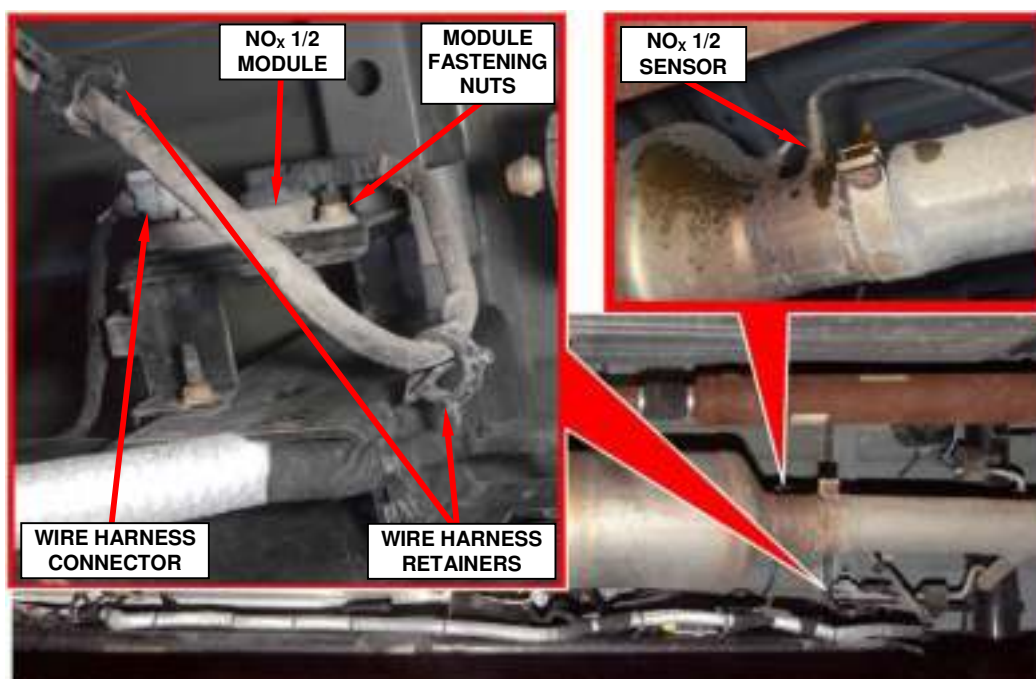

Figure 8 – NO_x 1/2 Sensor and Module
2. Disconnect the vehicle wire harness connector from the Oxides of Nitrogen (NO_x) 1/2 sensor module (Figure 8).
3. Remove and save the two nuts fastening the NO_x 1/2 module to the module bracket (Figure 8).
4. Release the NO_x 1/2 sensor wire harness from the harness retainers (Figure 8).
5. Remove and save the NO_x 1/2 sensor with module attached from the SCR catalyst (Figure 8).
37. Install the NO_x 1/2 sensor with module attached to the SCR catalyst. Tighten the NO_x 1/2 sensor to 37 ft. lbs. (50 N·m) (Figure 8).
38. Install the NO_x 1/2 sensor wire harness to the harness retainers (Figure 8).
39. Install the NO_x 1/2 module to the module bracket with the two nuts. Tighten the nuts to 80 in. lbs. (9 N·m) (Figure 8).
40. Connect the vehicle wire harness connector to the NO_x 1/2 sensor module (Figure 8).